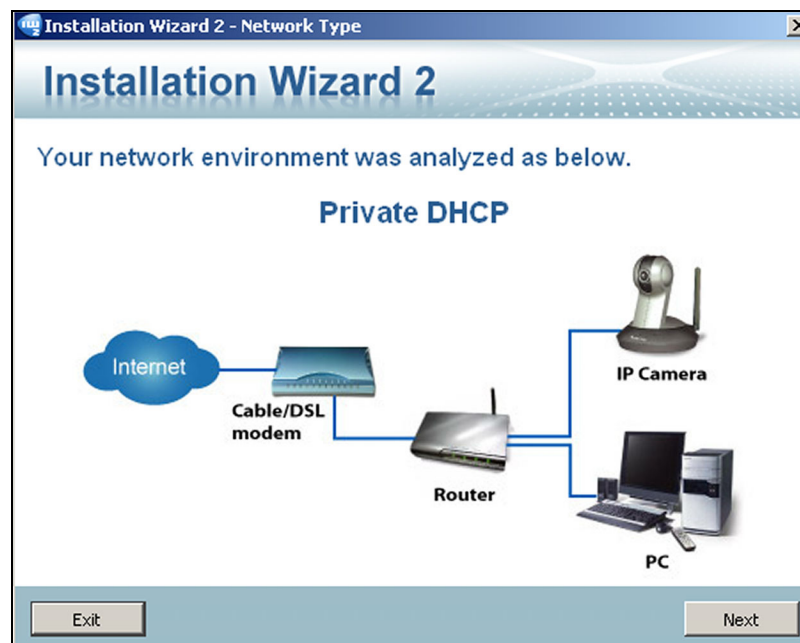

Figure 248 Sample detected network.
3. When the discovery completes, a graphic of the detected setup, similar to Figure 248, displays. Click **Next**.